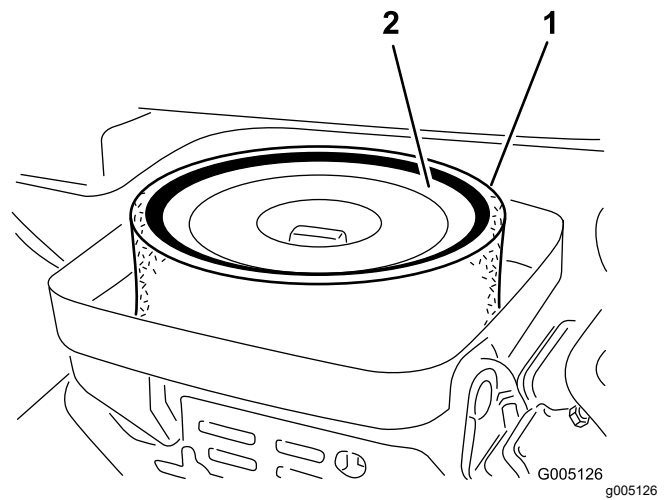

Figure 34
3. Remove the wing nut securing the elements to the air-cleaner body (Figure 34).
4. If the foam element is dirty, remove it from the paper element (Figure 34). Clean it thoroughly, as follows: